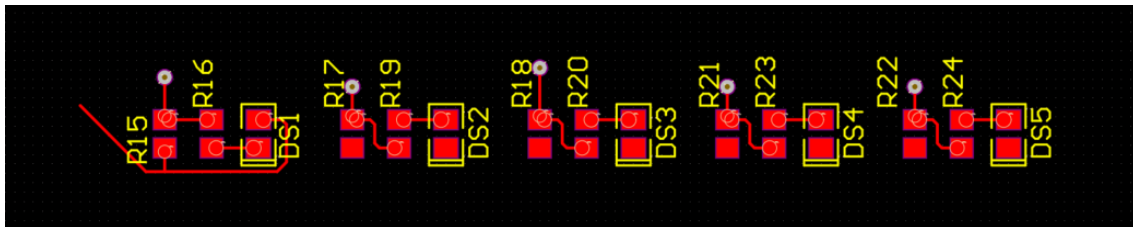

Figure 15. Snippet placed into the PCB
- c) Left-click to place the snippet into the PCB document, your PCB should look similar to Figure 15.